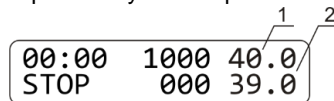

Figure 5. Display after calibration:
- 6.5 The display will show calibrated temperature as shown on fig. 5/1 and the unit will continue thermal stabilization according to the previously set temperature.